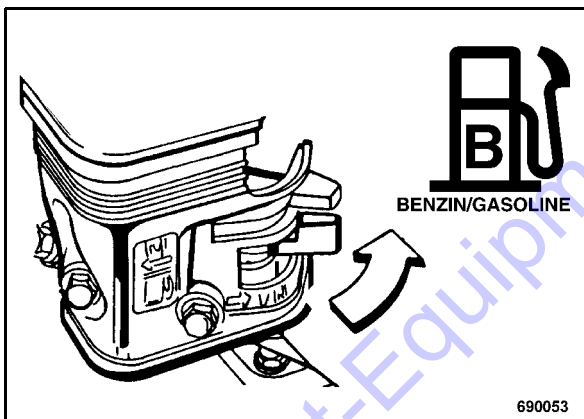

Fig. 60
- Open the fuel tap (Fig. 60) by turning in direction of arrow.